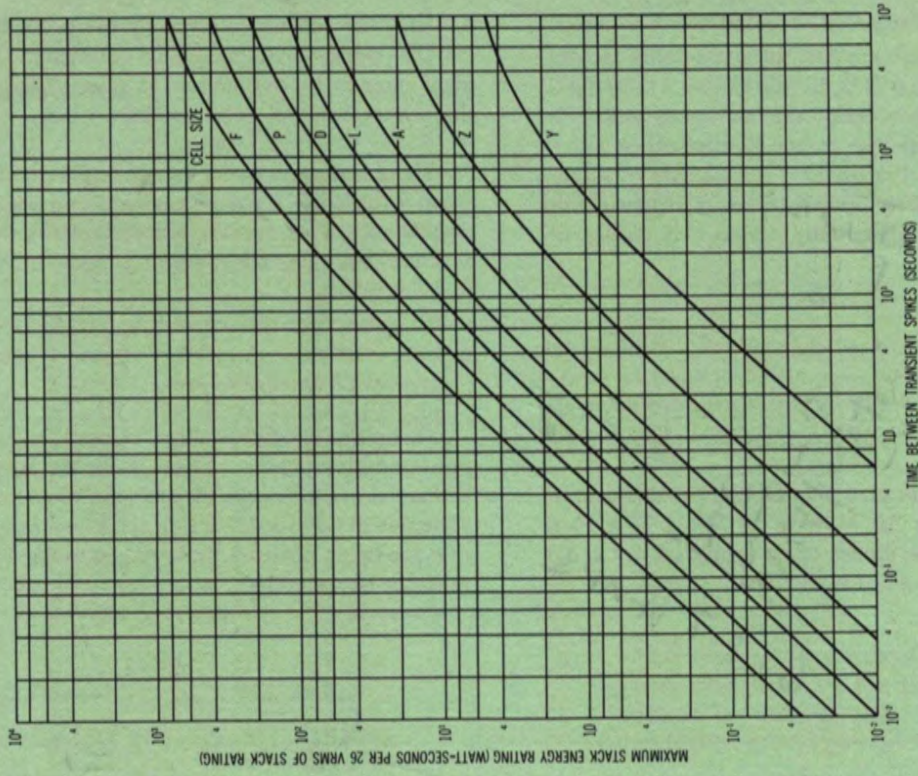

Fig. 8 — Stack Energy Rating Vs. Time Between Pulses — Non-Polarized Types
4. Using the cell size derived by the procedure as outlined in (1), the operating voltage factor outlined in (2), and the clamping voltage factor outlined in (3), refer to Table 1 and construct the proper Klip-Sel code number.
5. Where transients occur on a repetitive basis, refer to Figures 8 and 9 (page 10) for non-polarized and polarized applications respectively. This curve gives the relationship between pulse duration energy, and repetition rate for each 26VRMS of Klip-Sel rating.